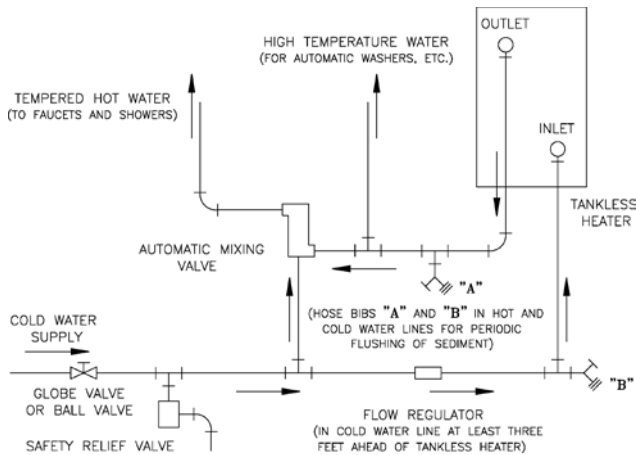

Figure 14: Schematic Tankless Heater Piping
I. CONNECT TANKLESS HEATER PIPING AS SHOWN IN Figure 14. See Table 4 for Tankless Heater Ratings.